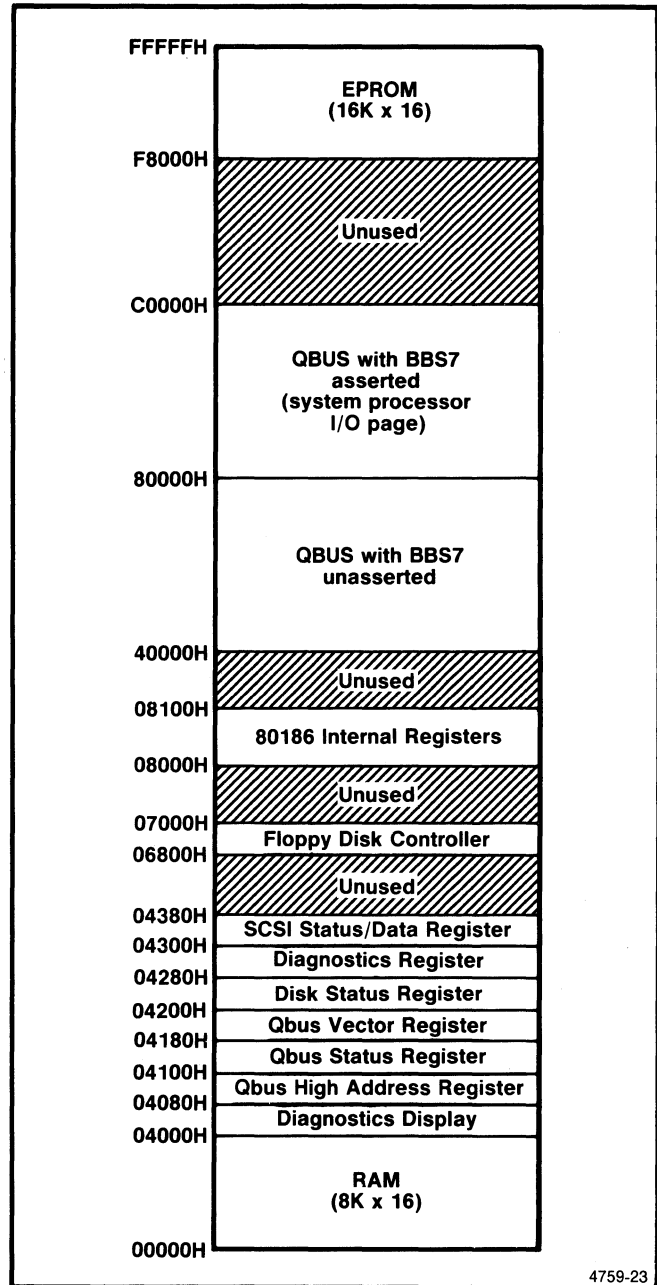

Fig. 9-2. The MSC memory map.
to 03FFFH and holds stack for the CPU, queued commands from the LSI-11 and data transferred to or from the flexible and hard disks. Figure 9-2 shows a memory map of the 80186 I/O space.
The input DIAGCONT is set or cleared by writing to the Diagnostics Register. When set, DIAGCONT does not allow the state machine to advance past state T4 (see Fig. 9-2). This holds the Qbus address on the DIN bus so that it can be read back during the execution of diagnostic firmware. During normal operation, DIAGCONT(L) will be cleared.